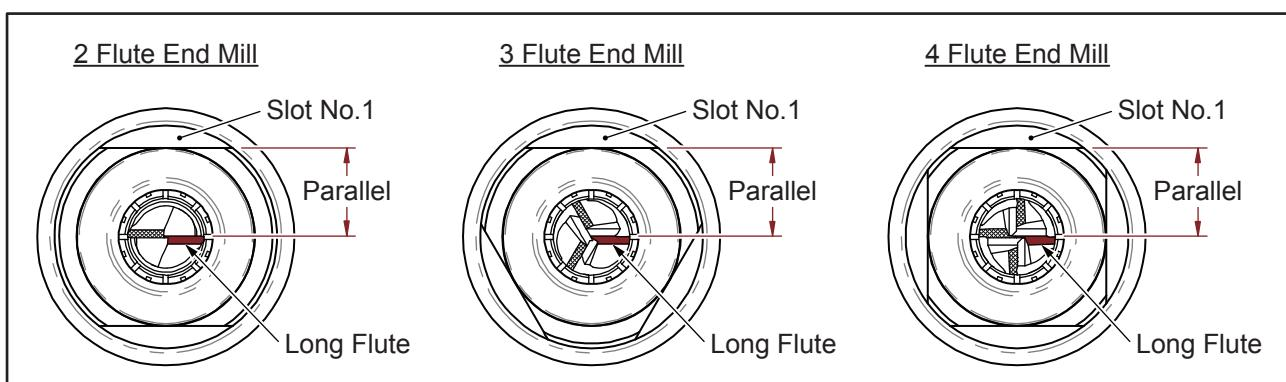

Fig. 5-4
4. Turn the long flute of the End mill to be parallel with the Slot No.1 of the clamping nut. (Fig. 5-4)
- ※ Make sure the long flute must be parallel with Slot No.1 of the clamping nut (See page 10, Fig. 5-4), if it is not parallel, please operate again the entire positioning procedure.